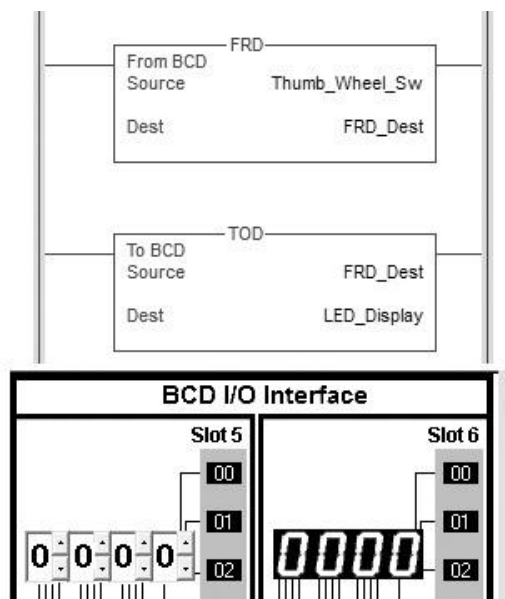

Figure 3-3 Program for assignment 2.
2) Construct a program for the monitoring of the setting of a thumb-wheel switch program shown in Figure 3-3.